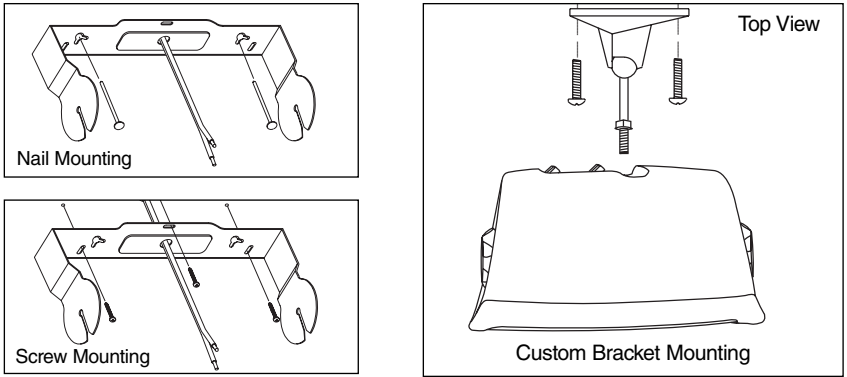

Figure 7 The OS loudspeaker can be mounted three ways.
1. If the loudspeaker is never going to be exposed to sudden accidental impacts, wind, waves or earthquakes you can simply hang it on a nail using the nail hole(s) on the bracket (**See Figure 7**).
2. The safest and most secure way to mount the loudspeaker is by screwing it to the mounting surface using your own hardware (suitable for the surface you are mounting to) and the bracket supplied with the loudspeaker (**See Figure 7**).
3. There is a threaded brass insert (1/4" – 20) on the back of the OS loudspeaker for attaching a custom bracket (See **Figure 7**). This allows you to position the loudspeaker at unusual angles or varying distances from the mounting surface.